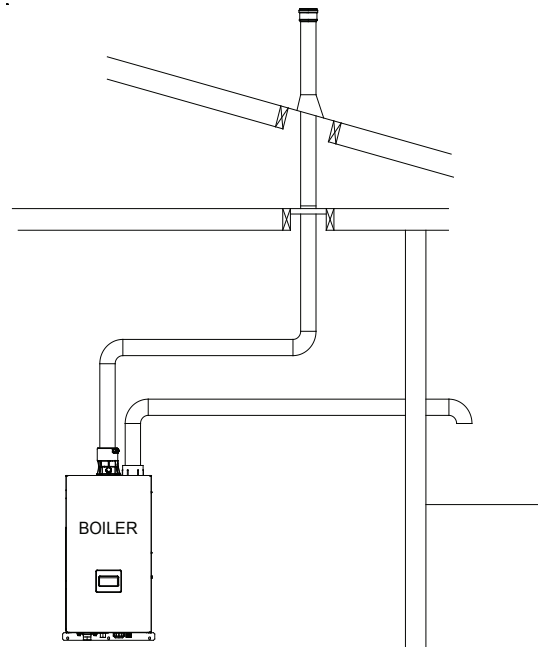

Figure 7.0c: Split Venting
- **Split Venting (Figure 7.0c)** - Exhaust system exits the building through a roof, and combustion air is drawn from a terminal mounted on the side wall. A summary of split venting options is shown in Table 7.21